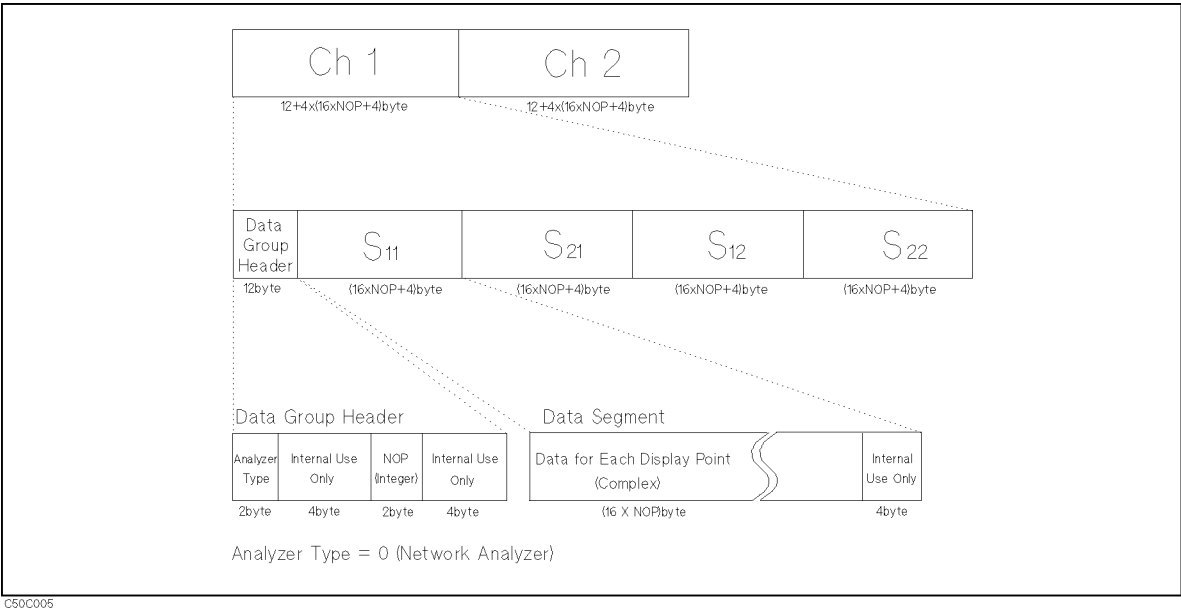

Figure A-42. RAW Data Group Structure for the Network Analyzer
- **RAW DATA** of the network analyzer consists of a header and four data segments per channel as shown in Figure A-42. They will follow the file header in this order: